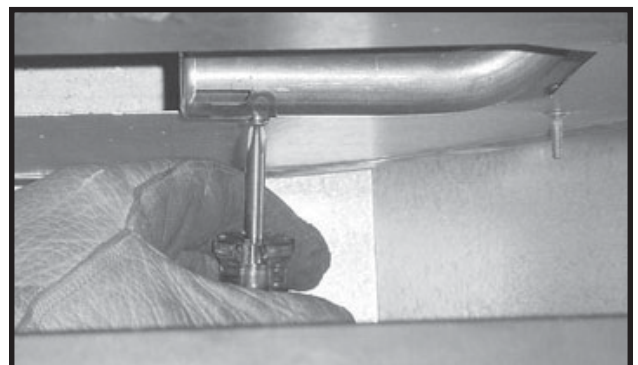

Figure 21 - Air Shutter Adjustment
- d. Locate the air shutter mounted on the end of the main burner. Loosen the locking screw, open the air shutter, and tighten the locking screw. See Figure 21.